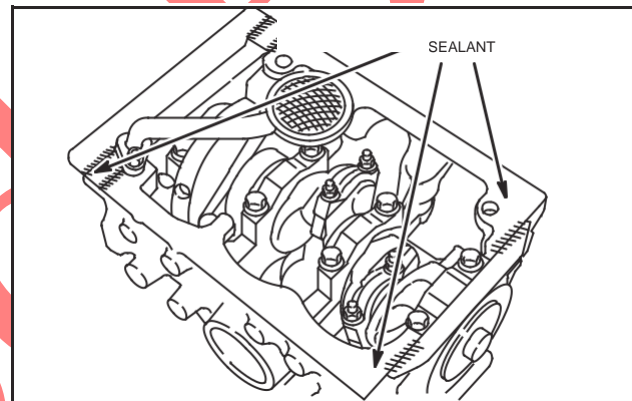

Fig. 8 – Installing Oil Pan
1. Install oil pan with new gasket, Fig. 8.